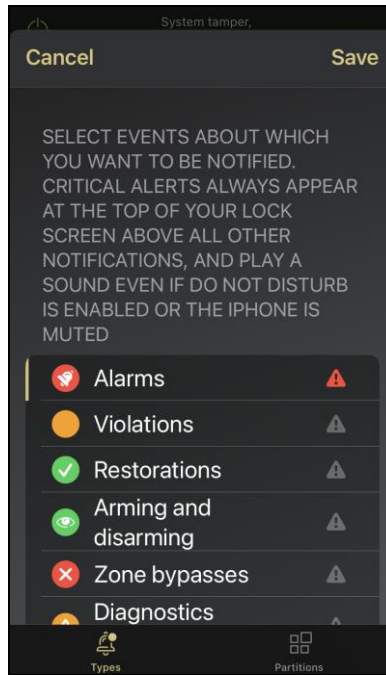

Fig. 28. INTEGRA CONTROL application. "Notifications" screen. Configuration of push notifications settings.
2. Tap the event types that you want to be notified about (they will be highlighted in yellow on the left) (Fig. 28).